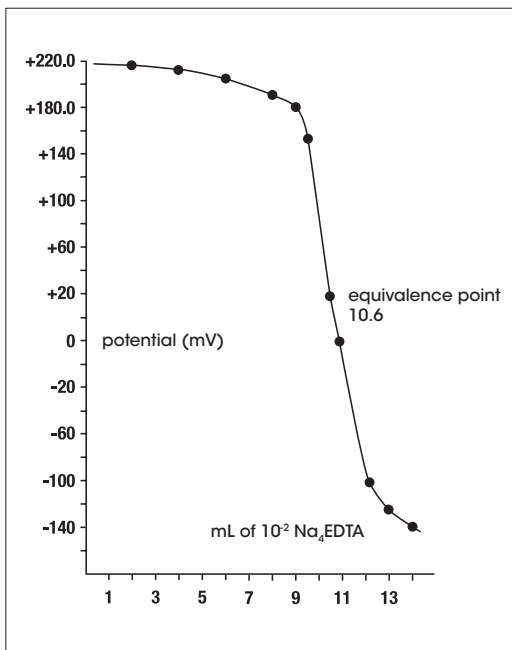

Figure 3 – Typical Titration of 10^{-3} mol/L $CuCl_2$ with 10^{-2} mol/L Na_4EDTA
2. Perform an equivalence point titration using a standard EQP (equivalence point) titration method template available in the Tx Excellence and G20 Compact titrators. The EQP of the titration is the point of the greatest slope (inflection point). See **Figure 3**.